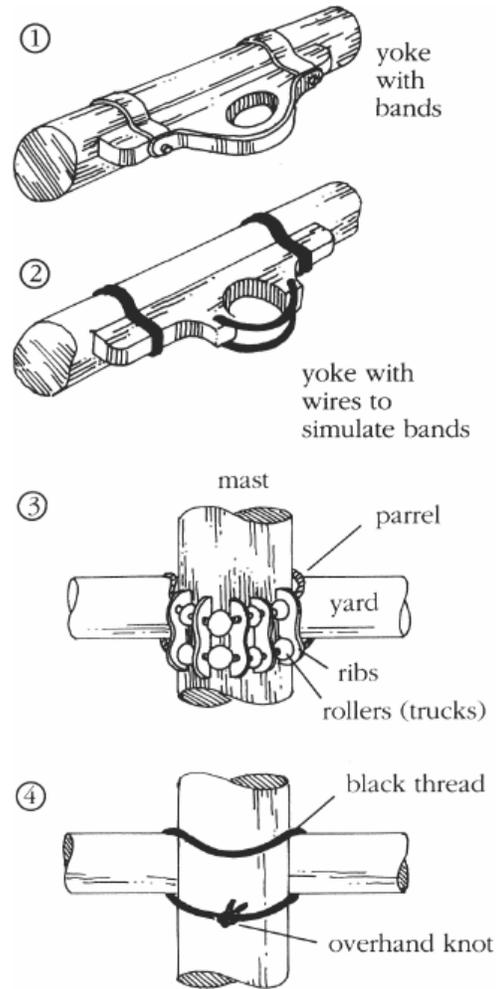

FIGURE 56. *Yokes and parrels.*
YOKES AND PARRELS. *Yokes and parrels* — arrangements of wood blocks, ribs, trucks (rollers), and ropes — were used to hold the upper yards to the masts and allow them to be raised or lowered as needed. If you don't find precut yokes in your kit, they are easy enough to make from a strip of scrapwood, using a round file the same size as the mast. Glue the yoke onto the yard, and drill a hole through the yard and the yoke. Set a pin in the hole and push the pin into the mast. This will hold the yard in place while you install the band. All three bands (Figure 56) can be made of copper sheeting or black tape (1), although another easy way to simulate the mast band is to drill two holes in the yokes and run a piece of black wire through them and around the mast (2).